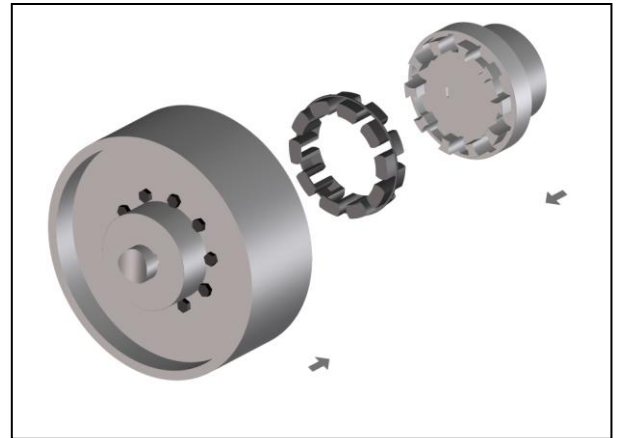

Fig. 5
- Push the shaft end with the mounted coupling halves together (Figure 5).